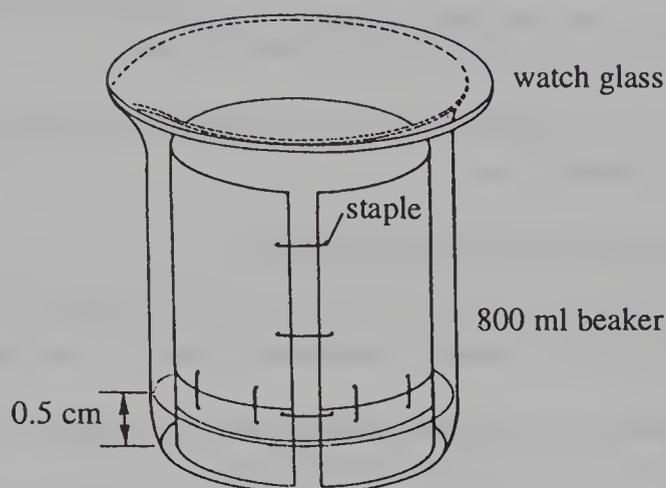

Figure 32-4. Chromatogram Setup
- Cut a piece of filter paper approximately  $10 \times 20$  cm to use in an 800 mL beaker. If another size beaker is used, the width of the paper should be slightly less than the height of the beaker and the length short enough so that the cylinder formed will fit in the beaker without touching the walls (see Figure 32-4).
- Allow the filter paper to dry and then separate it into a cylinder with three staples so that the edges of the paper do not touch each other as shown in Figure 32-4.
6. In the hood place solvent—a butanol, acetic acid, and water mixture—to a depth of 0.5 cm in a 800 mL beaker and place the paper cylinder in the beaker so that it does not touch the sides (see Figure 32-4).